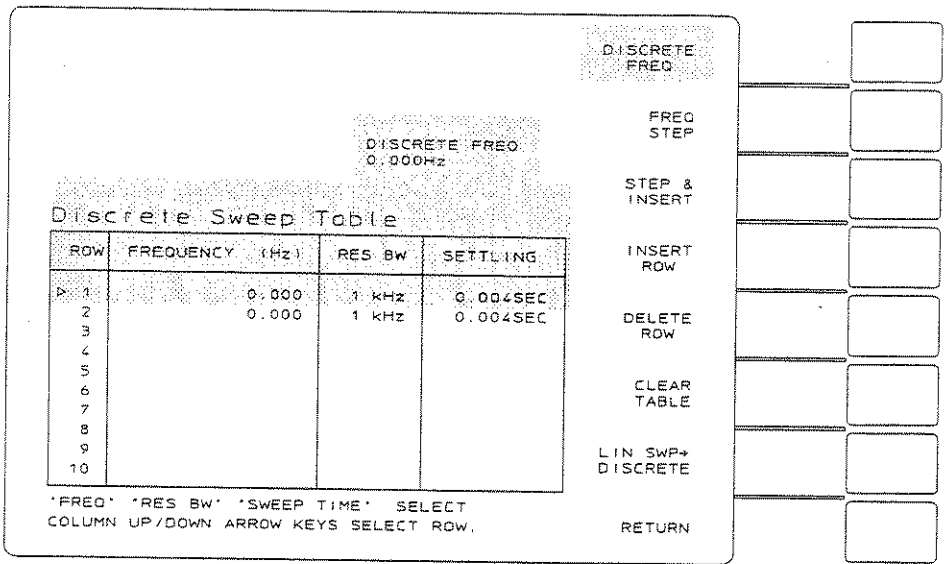

Figure 2-30. A Clear Discrete Sweep Table
- and now the display should look like figure 2-30. The table defaults to two entries, both at 0 Hz.